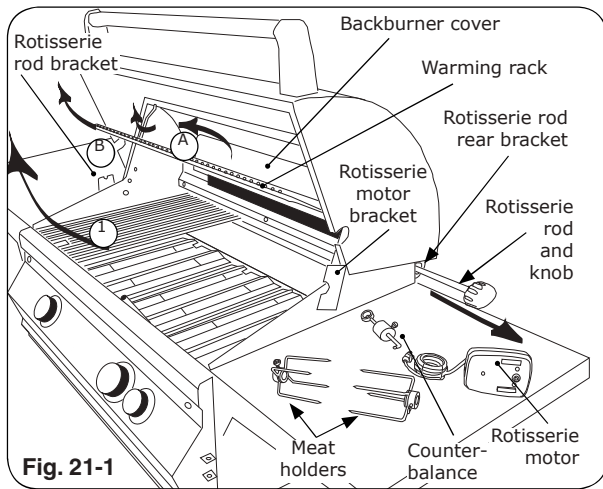
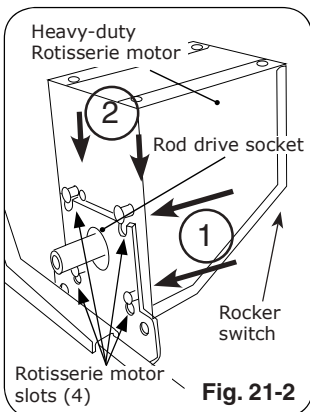
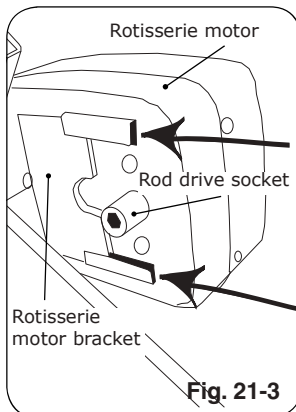

Fig. 21-1
Fig. 21-2
Fig. 21-3
2. Slide rotisserie motor fully onto motor bracket (right side, Fig. 21-2 or Fig. 21-3, and Fig. 21-1).
3. Remove rotisserie rod from rear bracket (Fig. 21-1) and attach knob if necessary.